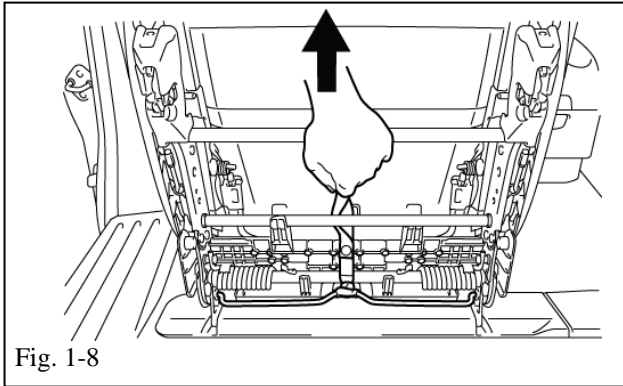

Fig. 1-8
(3) Pull the strap upward to release the seat. Fold and rotate to remove the seat assembly upright; then remove the seat assembly from the vehicle. (Fig. 1-8).